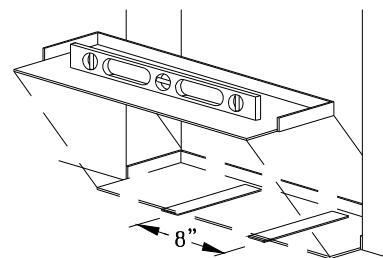

Figure 6:
- No supported width of more than 8" is allowed (Figure 6). Shim with non-porous, non-Absorbent, inorganic shims.